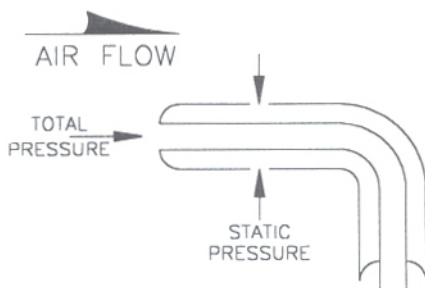
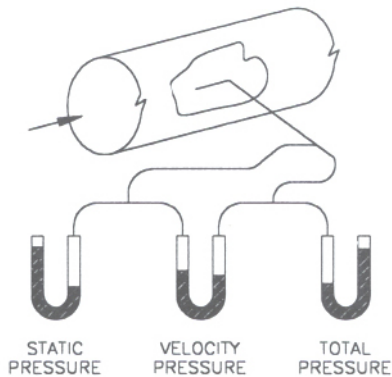

Figure 1 – Pitot Tube Cross-Section
Figure 2 – Pitot Tube Connection
1. The best method of measuring both air velocity and static pressure in the field is with a Pitot tube and manometer. The absence of moving parts, combined with fundamental simplicity, make this set of instruments accurate and nearly foolproof. Both instruments may be used in nearly any atmosphere and require no adjustments except for zeroing the manometer prior to testing. Figure 1 shows a Pitot tube cross-section. Figure 2 demonstrates how it is connected to the manometer to indicate pressures by measuring the difference in heights of water columns in the "U" tubes.